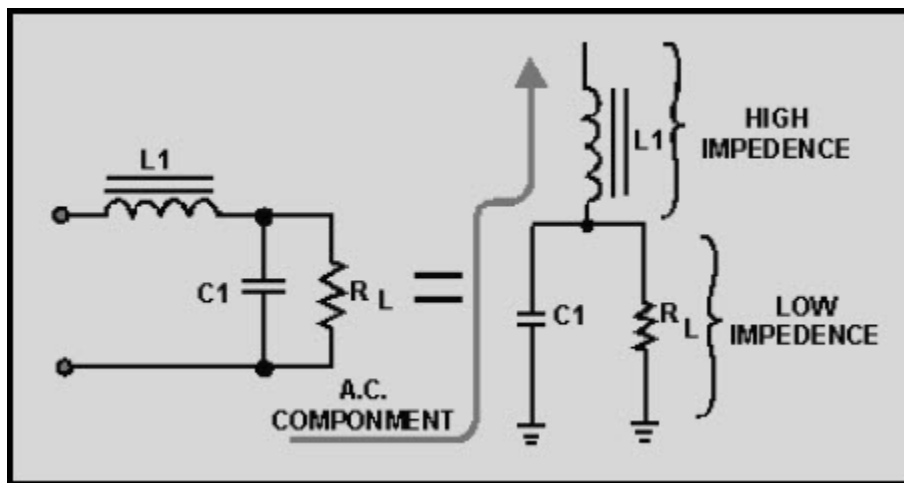

Figure 3-30 LC choke-input filter (as voltage divider)
The series inductor (L_1) and the capacitor (C_1) form a voltage divider for the ac component (ripple) of the applied input voltage. This is shown in figure 3-30. As far as the ripple component is concerned, the inductor offers a high impedance (Z) and the capacitor offers a low impedance. As a result, the ripple component (E_r) appearing across the load resistance is greatly attenuated (reduced). Since the inductance of the filter choke opposes changes in the value of the current flowing through it, the average value of the voltage produced across the capacitor contains a much smaller value of ripple component (E_r), as compared with the value of ripple produced across the coil.